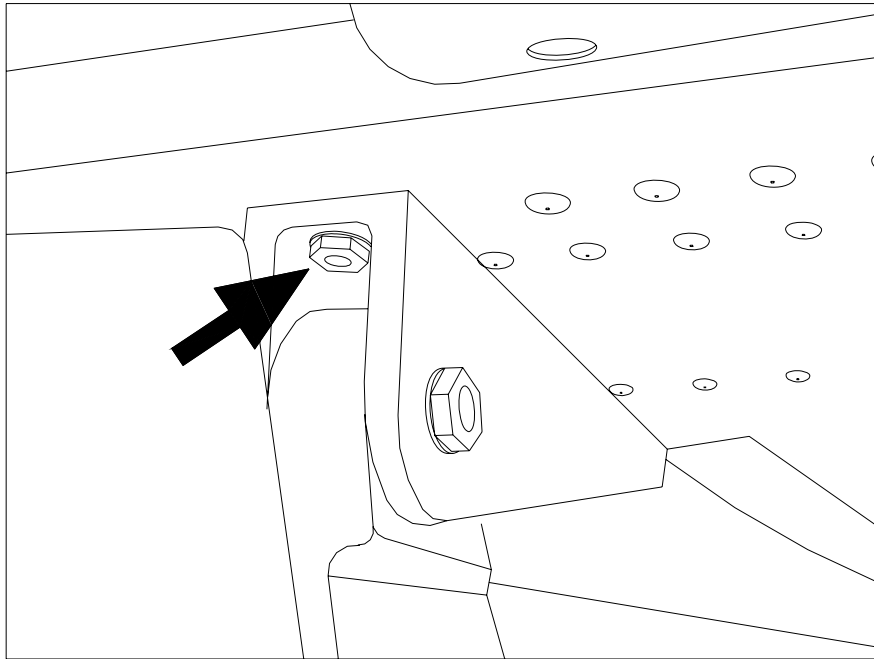

Figure 1
1. Daily, visually inspect the integrity of the rearmost vertical Horizontal Stabiliser attach bolt and nut on both left and right sides, see Figure 1. This inspection can be carried out externally to the aircraft without removing any fairings or structure.
1. Remove the rearmost vertical Horizontal Stabiliser attach bolt and nut from both left and right sides as indicated in Figure 1.